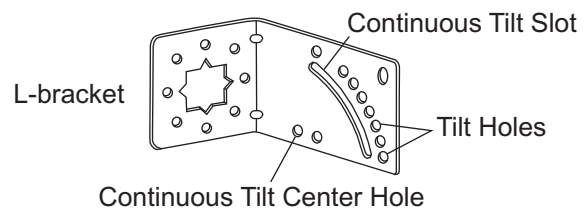

Figure F4
4. If vertical tilt of the antenna is required, use only one mast clamp and U-bolt with the fixed tilt holes which provide elevation in 10° increments. (Not recommended under high wind conditions.) For continuous tilt adjustment, use the slot to secure the antenna to the desired elevation (Fig. F4).